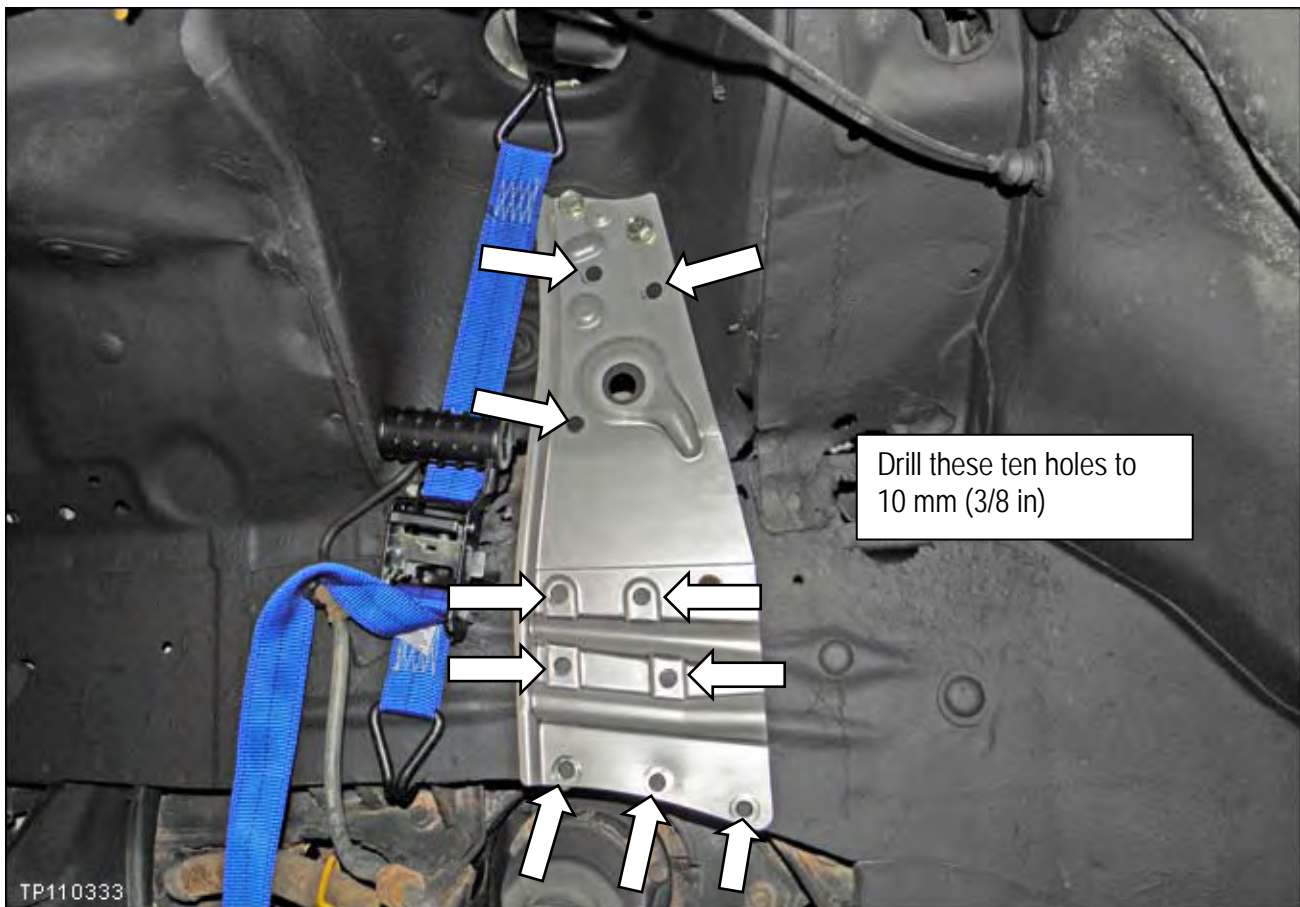

Figure RB9
19. Drill the 10 holes marked in Figure RB9 to **10 mm (3/8 in)**.